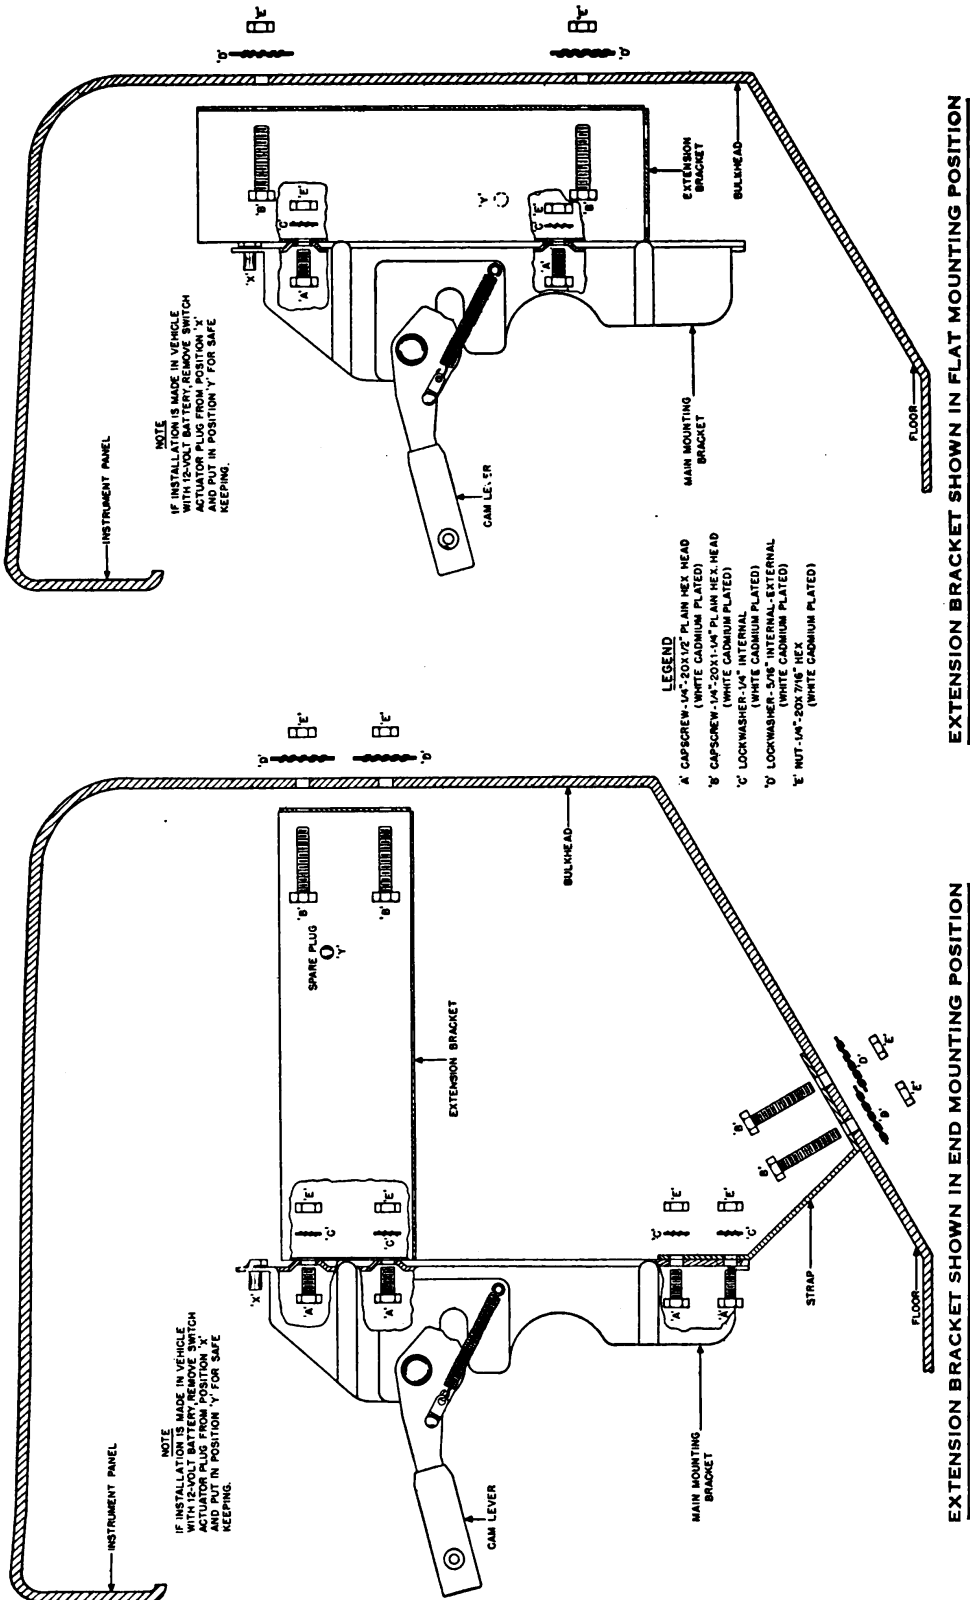

FIGURE 9—MOUNTING FT-338-A, INSTALLATION DETAIL
(1) The main mounting may be bolted to the instrument panel, to the bulkhead of a vehicle, or to some other suitable support. (See Figure 9.)
(2) The extension bracket is provided for installations where there is insufficient clearance in a vehicle, or where it is desired to space Radio Receiver BC-728-A away from the bulkhead. This auxiliary mounting may be placed sideways or on end, depending upon which position is more adaptable to the particular installation. (See Figure 9.)
(3) A strap is used to provide additional support where it may be required. Figure 9 illustrates the method of using the strap.
a. Mounting FT-338-A.—Select a location in the vehicle where the radio set will be accessible, and where it is close enough to the antenna to permit the lead-in to reach. The location chosen should permit an all-around clearance of at least one inch between the radio set and the vehicle. A clearance of less than one inch may cause the set to strike surrounding objects while driving over rough terrain, and cause noise. Two methods of mounting Radio Receiver BC-728-A are shown in Figure 9.
When Radio Set SCR-593-A is mounted on the instrument panel, use only the main mounting bracket. When mounted on the bulkhead, the extension bracket is required to space the main mounting bracket away from the bulkhead. The extension bracket may be mounted sideways, or on end, as shown in Figure 9.
Figure 9 also illustrates the method of bolting the main bracket to the extension bracket, and shows how the strap is bolted to the main bracket. Bend the strap to fit the contour of the floor board or support to which it is mounted.
(1) *Instrument Panel Mounting.*—Bolt the main mounting bracket to the instrument panel, using the bolts, lockwashers and nuts provided. (See Figure 9.)
(2) *Bulkhead Mounting.*—Bolt the main mounting to the extension bracket, using the bolts, lockwashers and nuts provided for this purpose. Mount the assembly on the bulkhead and bolt it securely. (See Figure 9.)